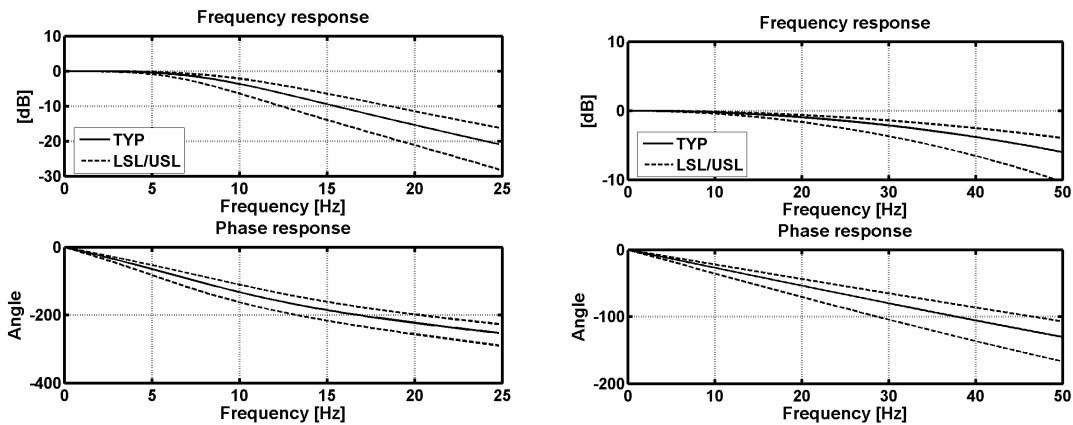

Figure 4 Frequency response of SCA3060-D02 in measurement mode (left) and in wide band mode (right)
9) Frequency responses according to Figure 4.